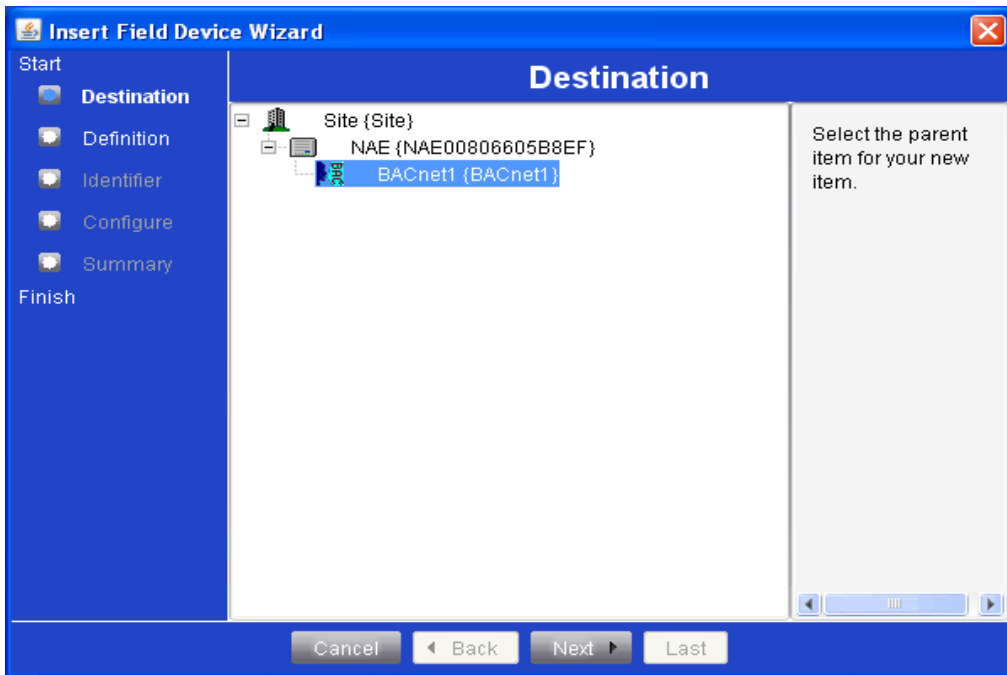
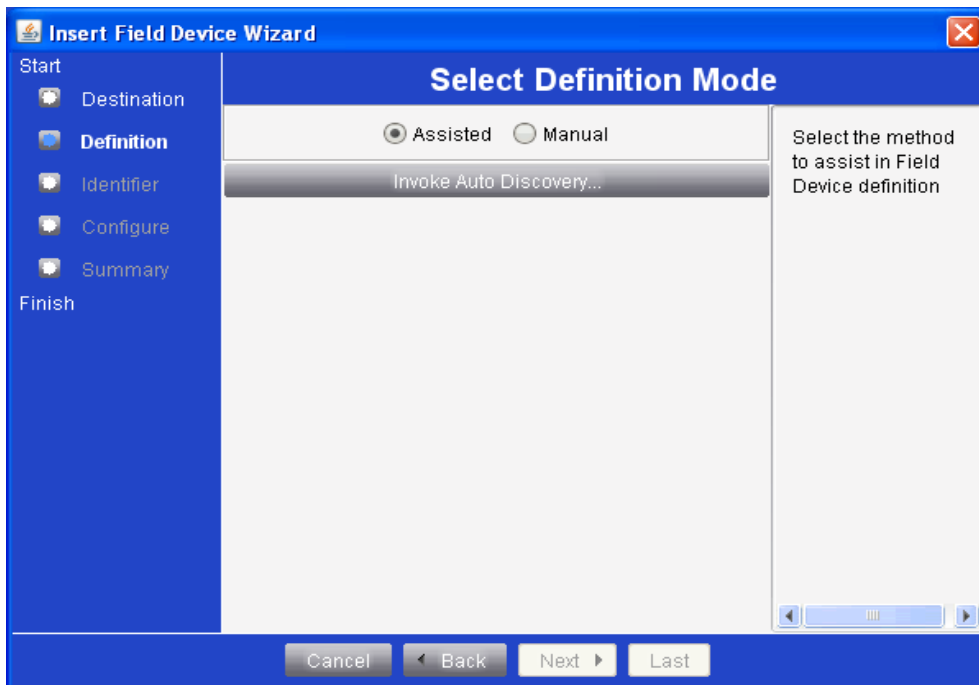

Figure 28: Insert Field Device Wizard - Destination Screen
Figure 29: Insert Field Device Wizard - Select Definition Mode Screen
2. Select **Field Device** on the **Insert** drop-down menu to open the **Insert Field Device Wizard - Destination** screen (Figure 28).
3. Select the destination (a BACnet integration) from the navigation tree for the field device (TEC20-3C Coordinator), and then click **Next** (Figure 28) to open the **Insert Field Device Wizard - Select Definition Mode** screen (Figure 29).